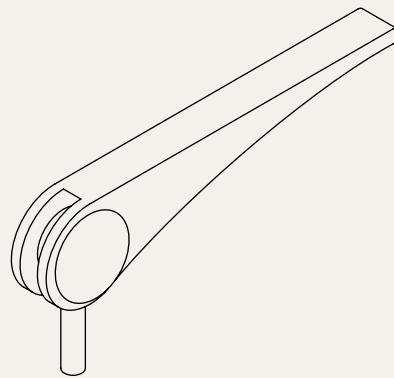
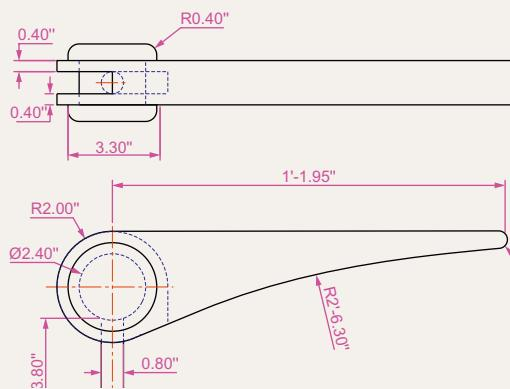

Fig. 13.19 Exercise 4
Fig. 13.18 Exercise 4 – orthographic projection
4. A two-view orthographic projection of a rotatable lever from a machine is given in Fig. 13.18 together with an isometric drawing of the 3D model constructed to the details given in the drawing Fig. 13.19.